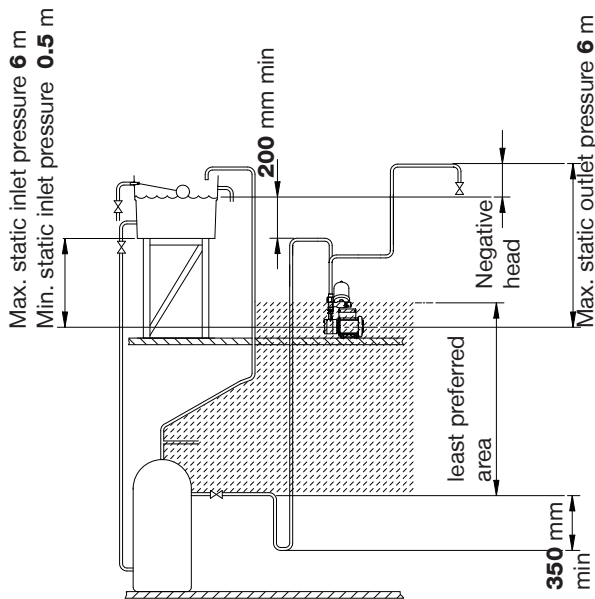

Fig. 3 - Single Pump
The use of a Stuart Side Entry (SE) cylinder flange, which should have the addition of an inverted loop ("U" bend) of 350 mm minimum drop before rising to the pump, located as close as possible to the cylinder wall. This will ensure the pump receives an air free supply and the cylinder vents any air up the vent pipe and not the pump feed (Figs. 3 & 4).